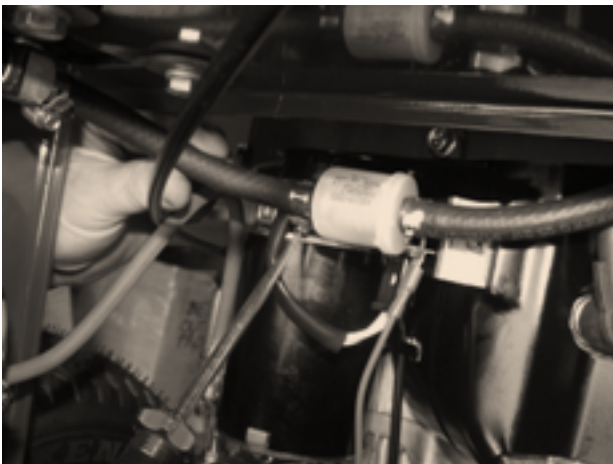

Figure 78
6. Using a straight screwdriver, disconnect fuel line from engine **Figure 78.**